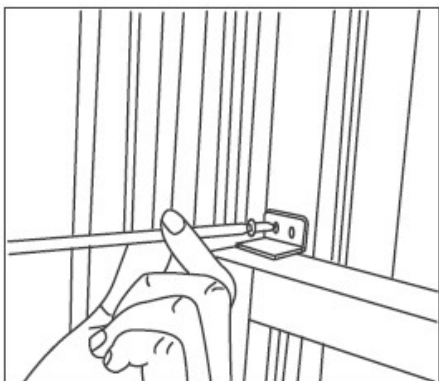

Fig.11
6. To secure lower sash in place, attach right angle sash lock with 3/4" (19 mm) screw as shown (Fig.11).